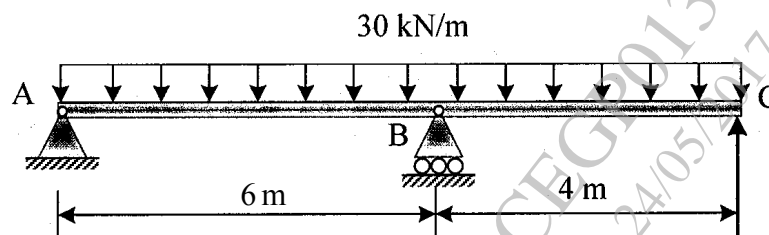

Fig. 1
- (b) Determine moment at B for the continuous beam loaded and supported as shown in Fig. 1 by three moment theorem. Assume uniform flexural rigidity : [6]